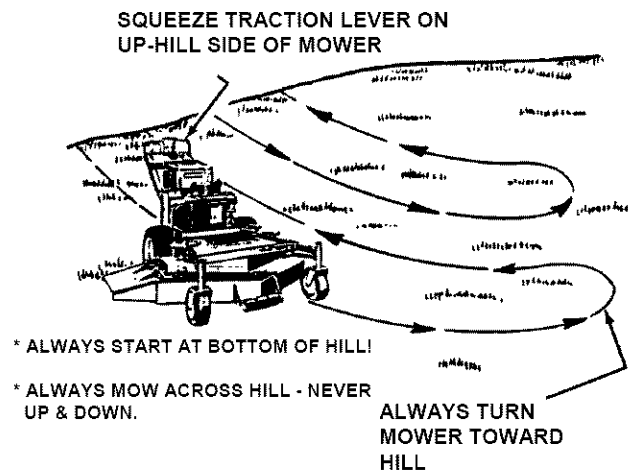

FIGURE 3.6
1. Always mow hillsides starting at bottom of hill. Mow across slopes, never up and down. Exercise **CAUTION** when changing directions on slopes. **DO NOT MOW STEEP SLOPES**. See Figure 3.6.